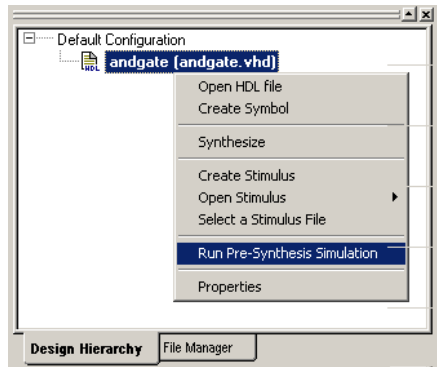

Figure 2-16. Run Pre-Synthesis Simulation
4. Double-click the **ModelSim** simulation icon in the **Process** window, or right-click **andgate** in the Design Hierarchy tab and select **Run Pre-synthesis Simulation**, as shown in Figure 2-16.